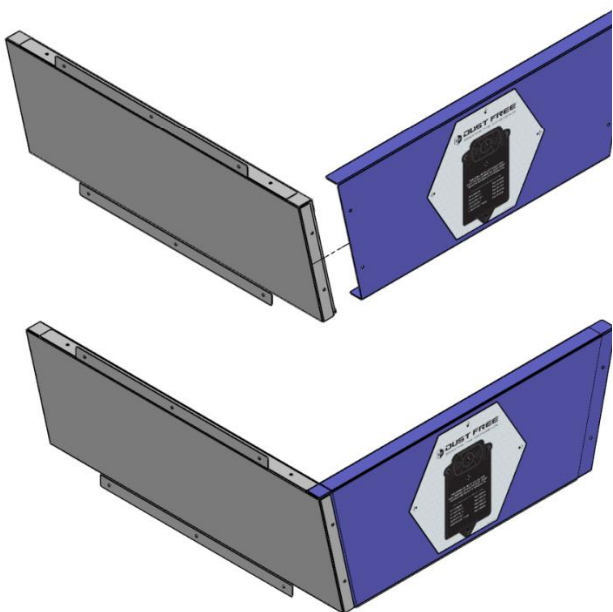

Figure 3: Side and rear panel alignment and assembly.
2. Place the rear panel on a firm surface. Align and insert one side panel into the rear panel, inside the flange as depicted in **Figure 3**.